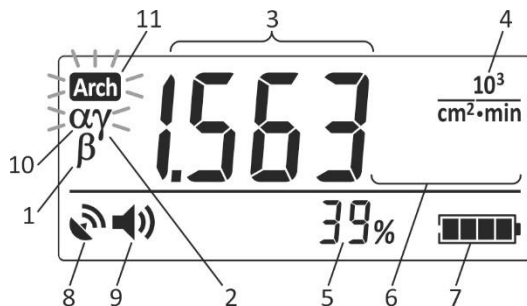

Figure 2.18 – LCD of the dosimeter
2.3.6.6.1.2 When beta radiation characteristics are measured using the ABG probe, alpha radiation presence is also monitored. When alpha radiation is recorded (when the pulse count rate from alpha radiation detector exceeds the value of 1 cps), the LCD of the dosimeter begins displaying a blinking “ $\alpha$ ” symbol ((10) Figure 2.18) and generating typical sound and light alarms.
2.3.6.6.2.3 In this mode the following is displayed on the dosimeter’s LCD (Figure 2.18):
- “ $\beta$ ” symbol (1) – radiation type being measured;
- blinking “ $\gamma$ ” symbol (2) – indication that when beta radiation characteristics are measured gamma-component of radiation is taken into account;
- measurement result (3);
- dimension of measurement result (4);
- estimated limits of expected relative statistical deviations (5) of the measurement result (3) given 0.95 confidence probability, hereinafter referred to as estimated limits of statistical deviations;
- instantaneous value indicator (6).
- battery status symbol (7);
- navigation receiver status symbol (8);
- symbol of sounding status of the registered gamma quanta, alpha or beta particles (9);
- symbol (10) of alpha radiation presence (when beta radiation characteristics are measured using ABG probe);
- press MODE and hold it down until a blinking “ $\gamma$ ” symbol appears ((2) Figure 2.18) to save the result of gamma-component measurement.
2.3.6.6.5.1 It is only possible to save the measurement result if gamma radiation component is considered during measurement of beta radiation characteristics. The LCD of the dosimeter displays a blinking “ $\gamma$ ” symbol (2) (Figure 2.18).